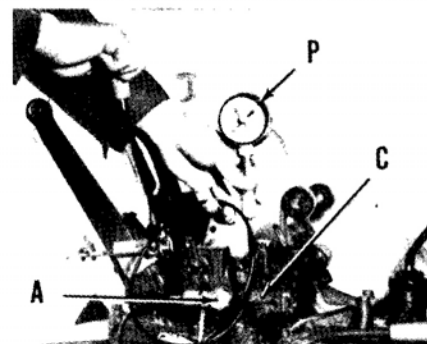

Fig. 93—View showing special Kubota adapter (A) and pressure gage (P) (Tool kit 07916-50041) installed in control valve (C) pressure line inlet. Refer to text.
91. RELIEF PRESSURE. Install special Kubota adapter (A – Fig. 93) and pressure gage (P) (Tool kit 07916-50041) or suitable equivalents. Start engine and allow fluid to warm up to 49°C (120°F) (warm to the touch), then move control lever to full up position while observing the pressure gage. Pressure reading should be 10.8-11.8 MPa (1570-1710 psi). Adjust pressure by varying shims (24 – Fig. 101). Adding one 0.3 mm